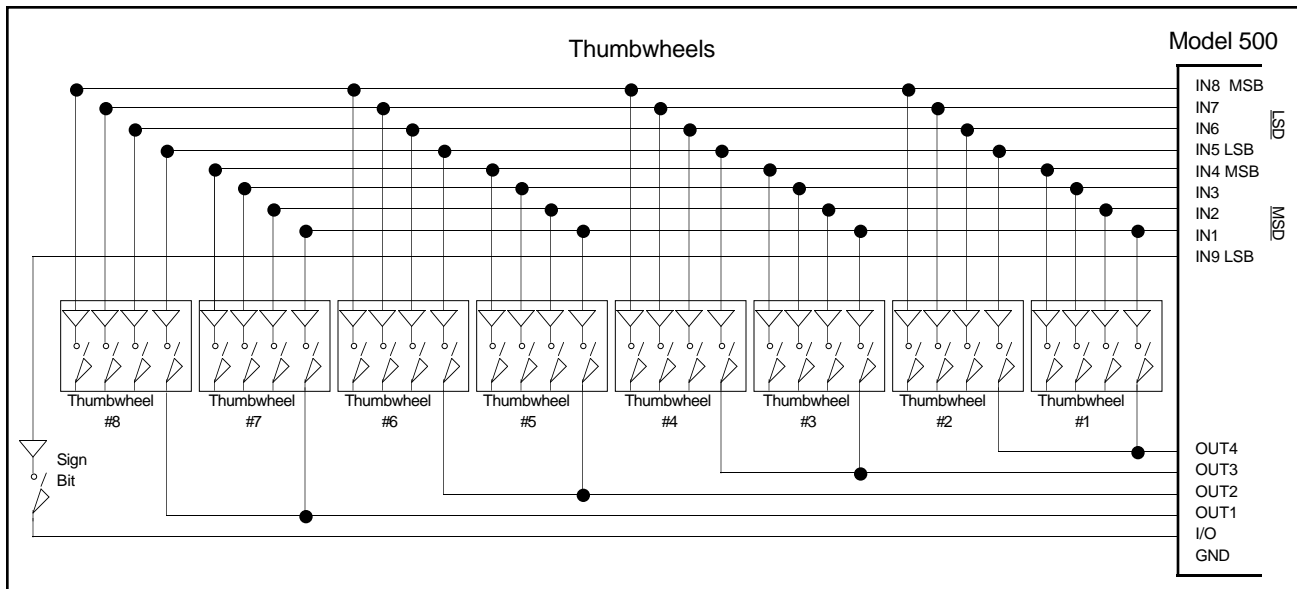

Figure 4-15. Thumbwheel Connections to the Model 500
- STEP ①** Enable the PLC Mode with the **TM0** command. The PLC mode allows you to use the 500 with a PLC or your own thumbwheels. The 500 provides certain commands that aid you in using a PLC. This will be covered later in the section entitled *PLC Operation*.
- STEP ②** Wire your thumbwheels according to the schematic in Figure 4-15.